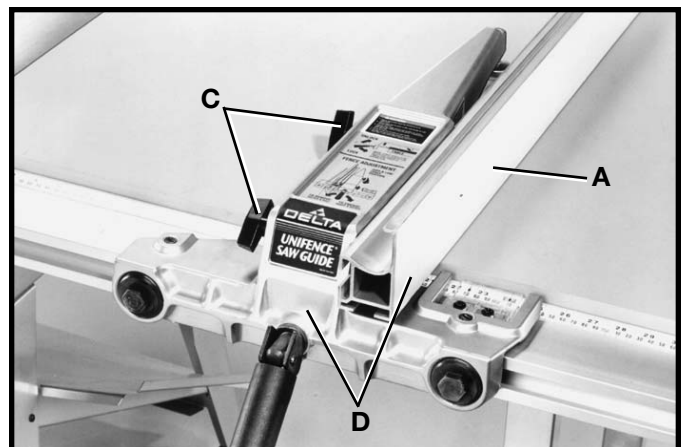

Fig. 130
In some cases it may be desirable to use the fence on the left side of the saw blade. This is easily accomplished by repositioning the fence (A) Figs. 129 and 130, fence clamp bar (B), and lock knobs (C) so that the fence (A) will be attached to the right side of the fence body, as shown in Fig. 130. The complete fence assembly (D) Fig. 130, can easily be moved to the left side of the saw table.